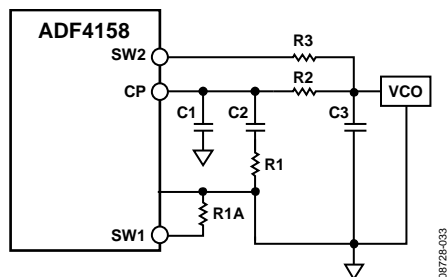

Figure 44. Fast-Lock Loop Filter Topology—Topology 2
- Connect an extra resistor (R1A) directly from SW1, as shown in Figure 44. The extra resistor must be chosen such that the parallel combination of an extra resistor and the damping resistor (R1) is reduced to  $\frac{1}{4}$  of the original value of R1.